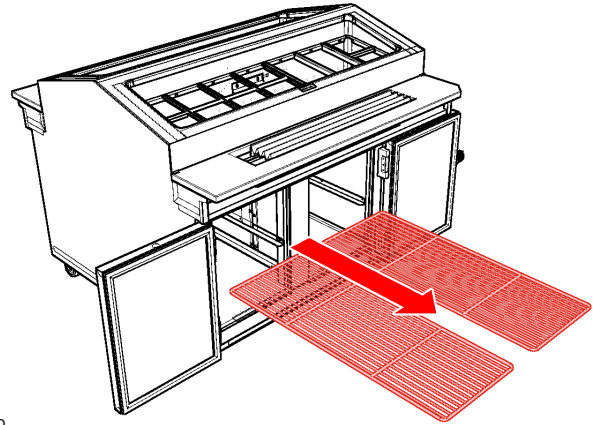

Fig. 9
1. Remove wire racks from interior of refrigerator (Fig. 9).